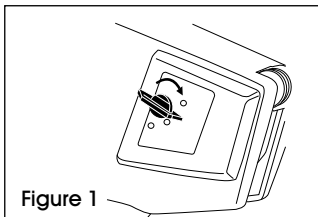

Figure 1
1. Turn latch to release ink roller door and carefully pull ink roller completely out of labeler. (See Figure 1)